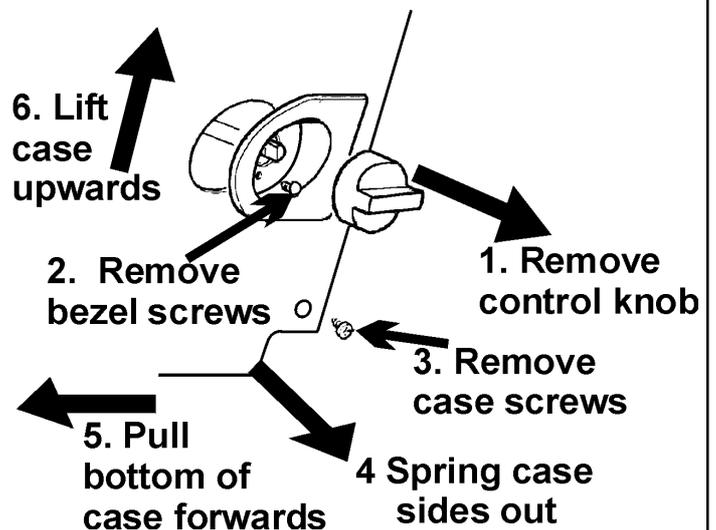

Figure 5. Outer case removal
3.3.4. Remove the control bezel by unscrewing two screws. See figure 5.
3.3.5. Detach the outer case by removing the screws at the case sides. See figure 5.
Spring the bottom corners of the case outwards and pull the bottom of the case forwards to clear the fixing brackets. Lift the case upward and forwards to clear the top location. See figure 5.